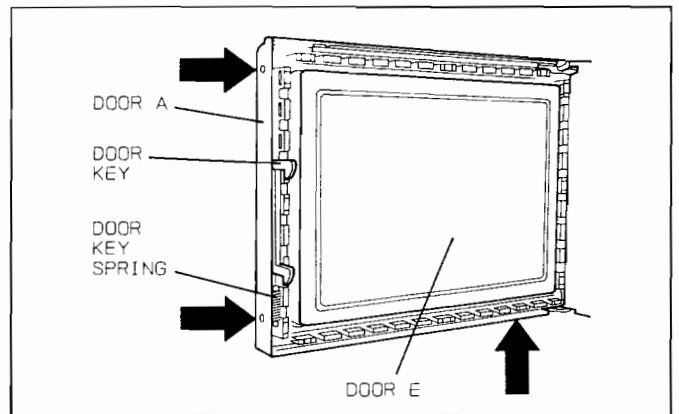

Fig. 27
- (A) Lay the oven on its as illustrated in Fig. 27.
- (B) Remove 2 screws holding motor cover. (Fig. 27)